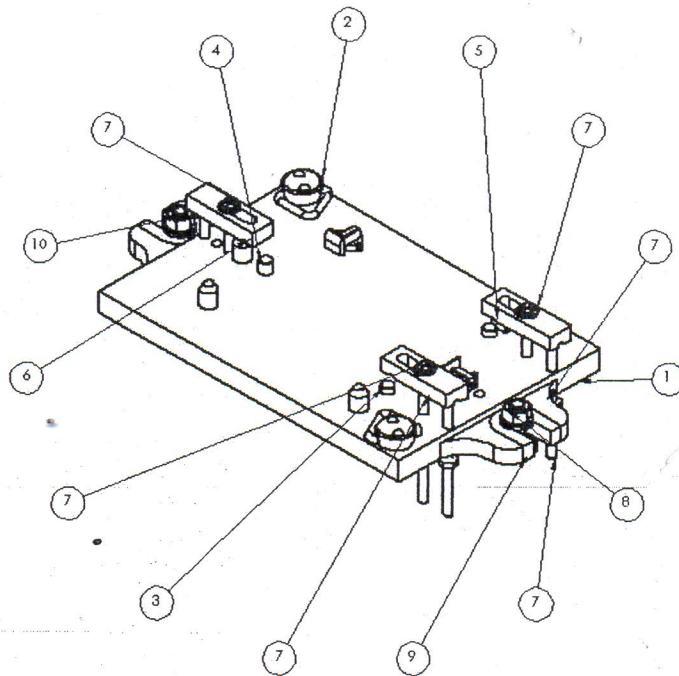

Figure 2
Plate fixtures are the most versatile and common form of fixture used today. The basic plate fixture is a simple plate on which the part is mounted, located, and held with a variety of tooling details. Please refer to the Figure 2 to answer the questions.
- (a) Describe and analyze briefly how design fixtures are planned as shown in Figure 2. (10 marks)